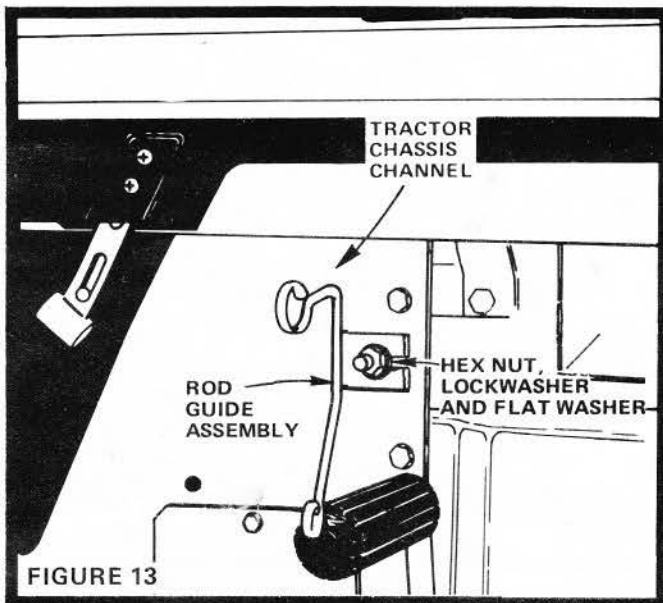

FIGURE 13
- Insert Hex Bolt through Chassis Channel from the inside (Fig. 13).